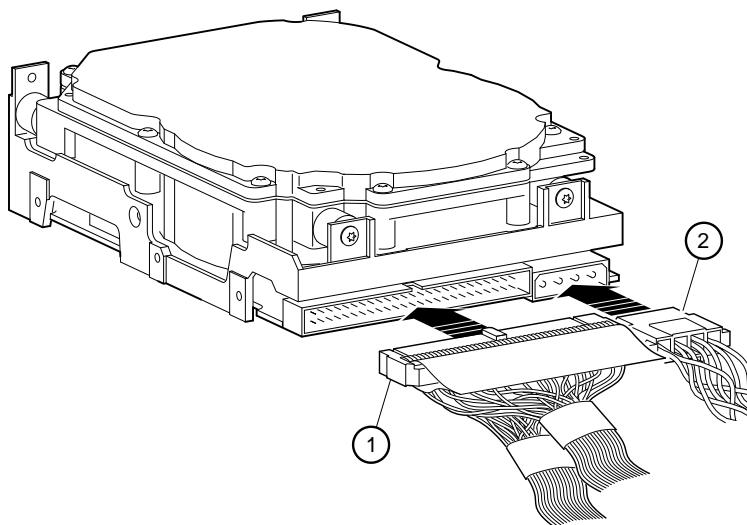

Figure 3-13. Cabling Hard Disks
5. Connect the bus cable ① and the power cable ② to the rear of the drive, as Figure 3-13 shows.